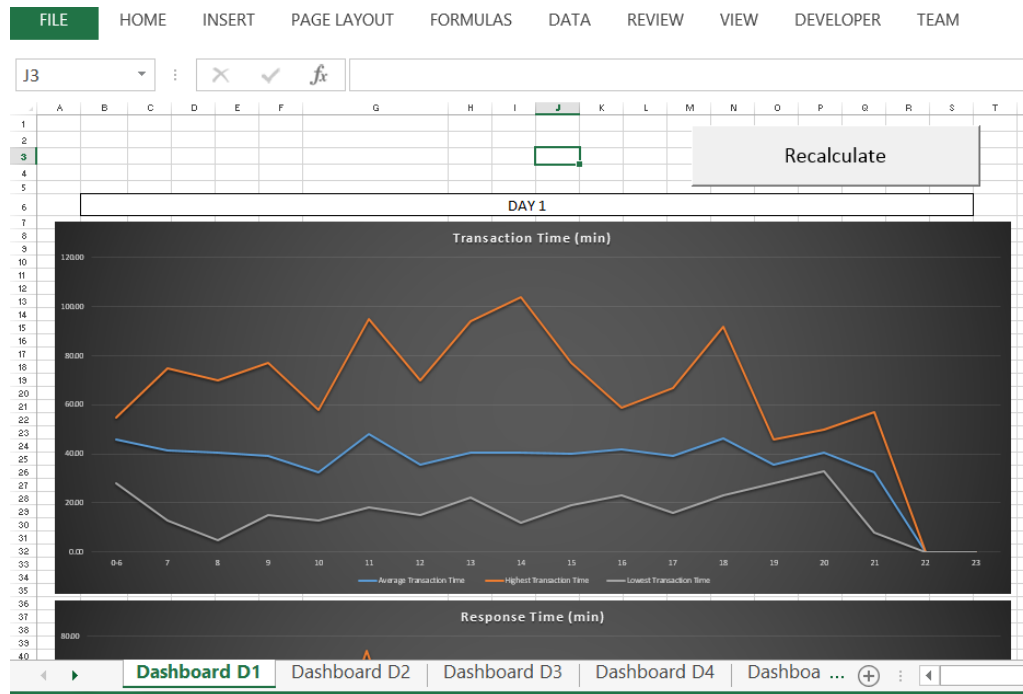

Figure 6.1: Dashboard
- Figure 6.1: Dashboard Overview (Page 7)